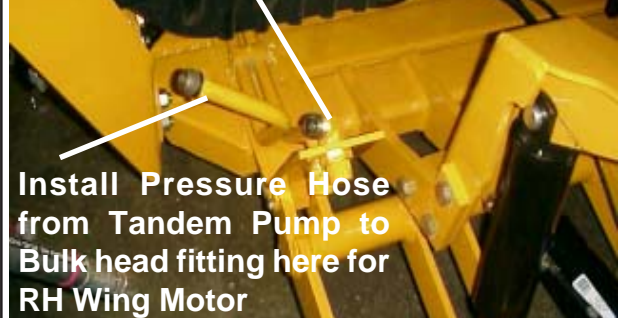

Figure 16
21. Connect Motor Pressure Supply Hoses to Main Frame Cross Member. The Tandem Pump has two pressure hoses. The Rear (closest to Tractor Engine) it the supply for the RH Wing Motor. The Outer Pump is the LH Wing Motor Pressure Supply. The hose for the RH Wing should be marked with a red plastic tie on it, the other hose is not Identified. Connect these two hoses at the Main frame crossmember now (See Figure 16 & 17)